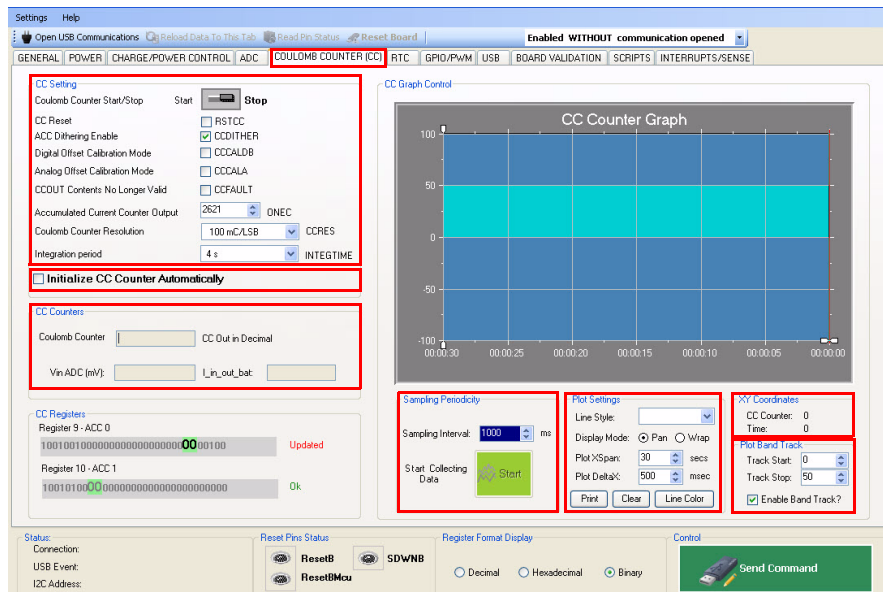

Figure 29. Coulomb Counter Configuration Tab Window
6.6 COULOMB COUNTER (CC) Tab
On the **COULOMB COUNTER (CC)** tab (shown in Figure 29), a function called **Initialize CC Counter Automatically** performs the following sequence of commands:
7. The **Plot Band Track** section lets the user create a bound area between the delimited high and low sections in the graph. For instance, if the user needs to check a specific area in the graph between 0 and 50 (shown in Figure 29), they need to set the boundaries in the **Track Start** and **Track Stop** components accordingly, to create a delimited band.